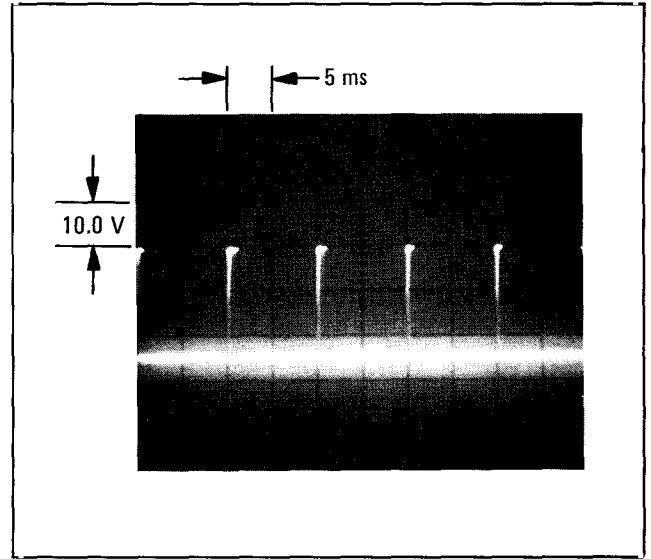

Figure 5. Display of SAR Clock Generator Pulse (coupling is dc to U9D-Pin 14; external trigger from J2-Pin 10)
2. Increment the frequency up 10 MHz and compare the displayed waveforms to those shown in Figures 5 and 6. Refer to **√3** to verify SAR Data input during the FM calibration cycle.